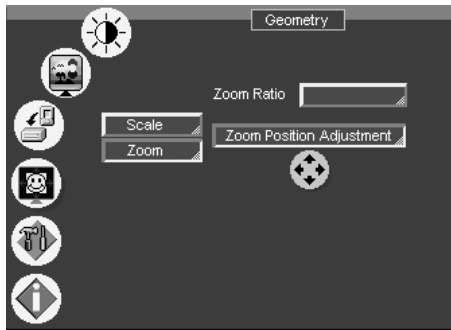

Figure 26: Geometry (Zoom Position Adjustment) Screen
- Using the OSD Menu buttons (see Figure 26)3